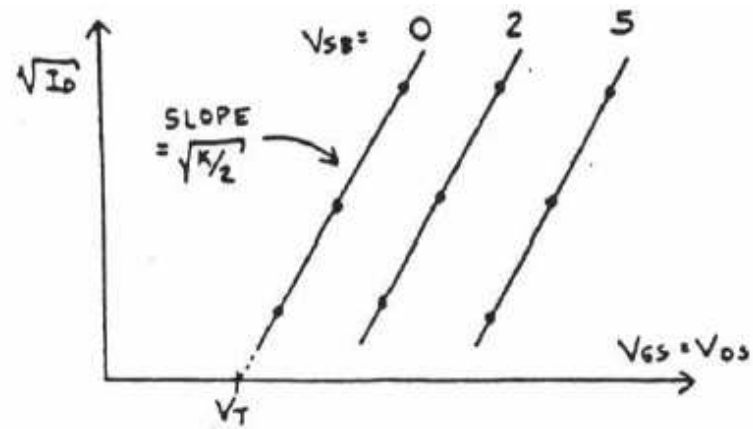

Figure 2: Sample plot of  $\sqrt{I_D}$  as a function of  $V_{DS} = V_{GS}$  for various  $V_{SB}$ .
**Part 3 (10 points)** Plot  $\sqrt{I_D}$  vs.  $V_{GS} = V_{DS}$  for both devices at three values of body bias. Figure 2 shows sample plots. Draw the best fit straight line through your data points. From intercepts, determine  $V_T$  for  $|V_{BS}| = 0, 2$ , and  $5$  V for each device. From the  $V_{BS} = 0$  V plot, determine the transconductance parameter  $k = k'W/L$ . Estimate  $W/L$  for both transistors.